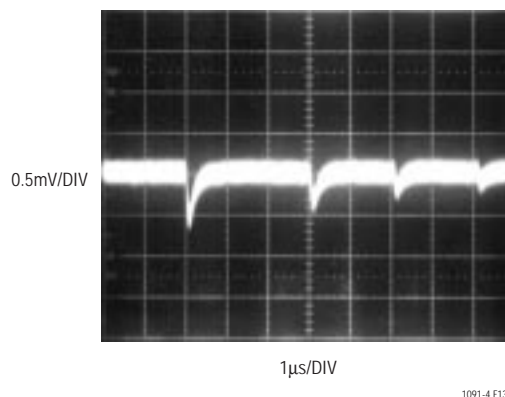

Figure 13. Adequate Reference Settling
2. Transients on the reference inputs caused by the capacitive switching currents must settle completely during each bit test (each CLK cycle). Figures 13 and 14 show examples of both adequate and poor settling. Using a slower CLK will allow more time for the reference to settle. However, even at the maximum CLK rate of 500kHz most references and op amps can be made to settle within the $2\mu\text{s}$ bit time.